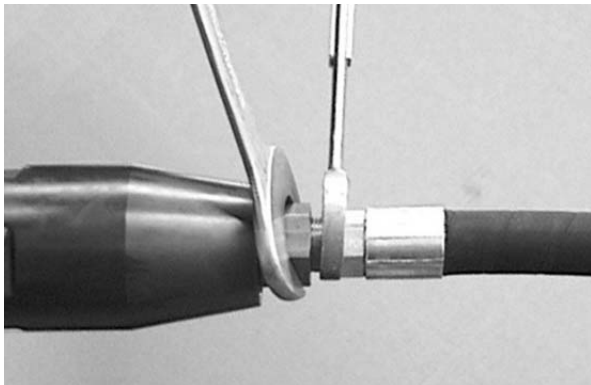

Figure 11-1. Remove Whip Hose from Adapter.
2. Using a 1-1/4-inch open-end wrench to hold the Adapter (18) in place, use a 1-1/8-inch open-end wrench to loosen and thread the hose fitting of Whip Hose (20) from the Adapter. Refer to Figure 11-1.